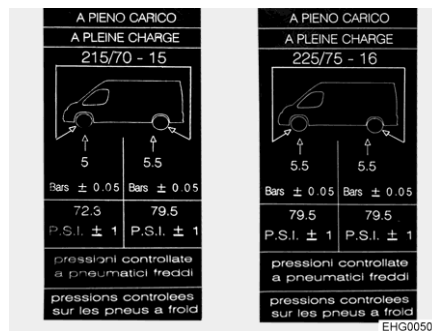

Fig. 188 Tyre pressure information sticker on B column (example)
- ▷ Information stickers with the required tyre pressure are attached to the inside of the B column (see Fig. 188).